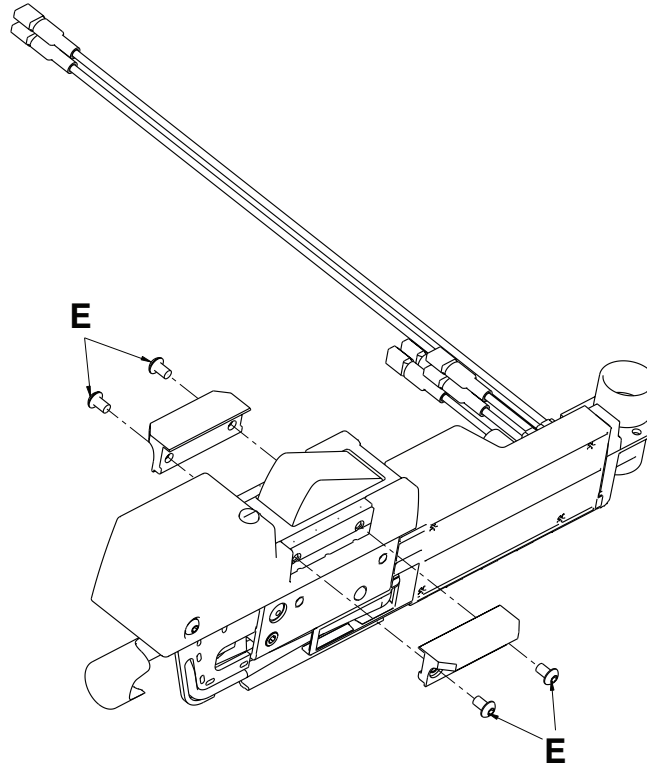

**Figure 44: Remove cable ties**
10. Using diagonal pliers, cut the cable ties (D) that secure the coil wires to the wire management strap (Figure 44 on page 74).